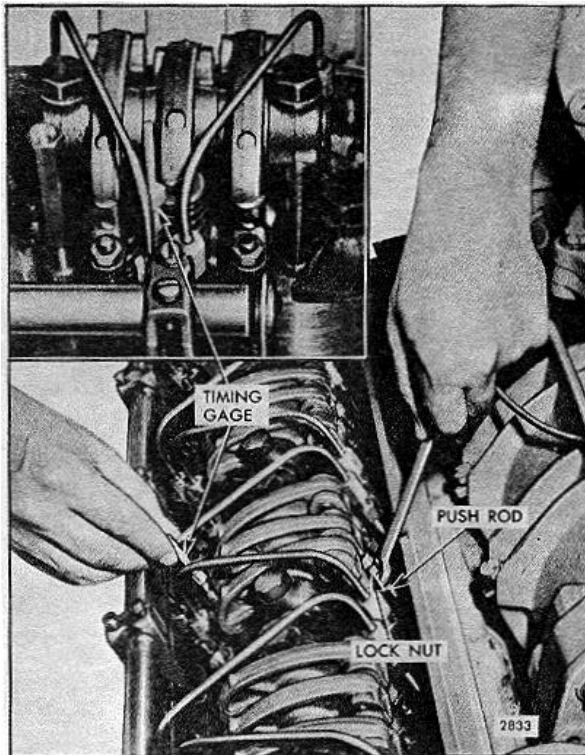

FIG. 1 - Timing Fuel Injector
3. Place the small end of the injector timing gage in the hole provided in the top of the injector body with the flat of the gage toward the injector follower (Fig. 1). Refer to Table 1 for early engines equipped with crown valve injectors. Refer to Section 14 for engines equipped with needle valve injectors.